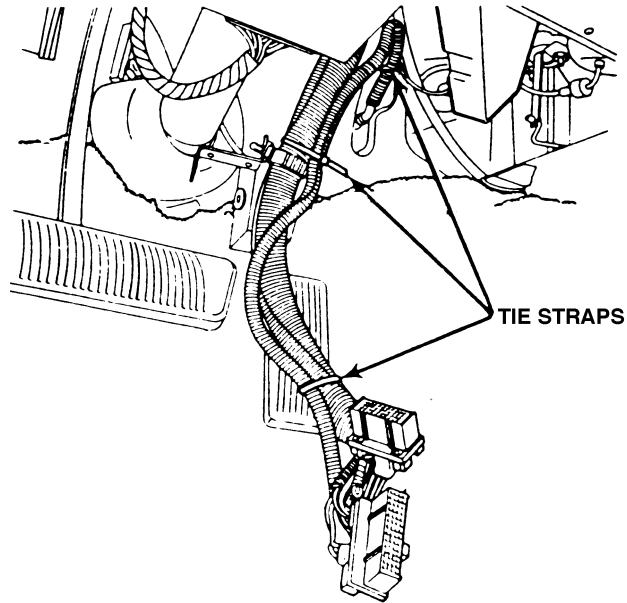

Figure 10.
25. Using tie straps, secure the patch harness to the EEC harness inside the passenger compartment (Figure 10).